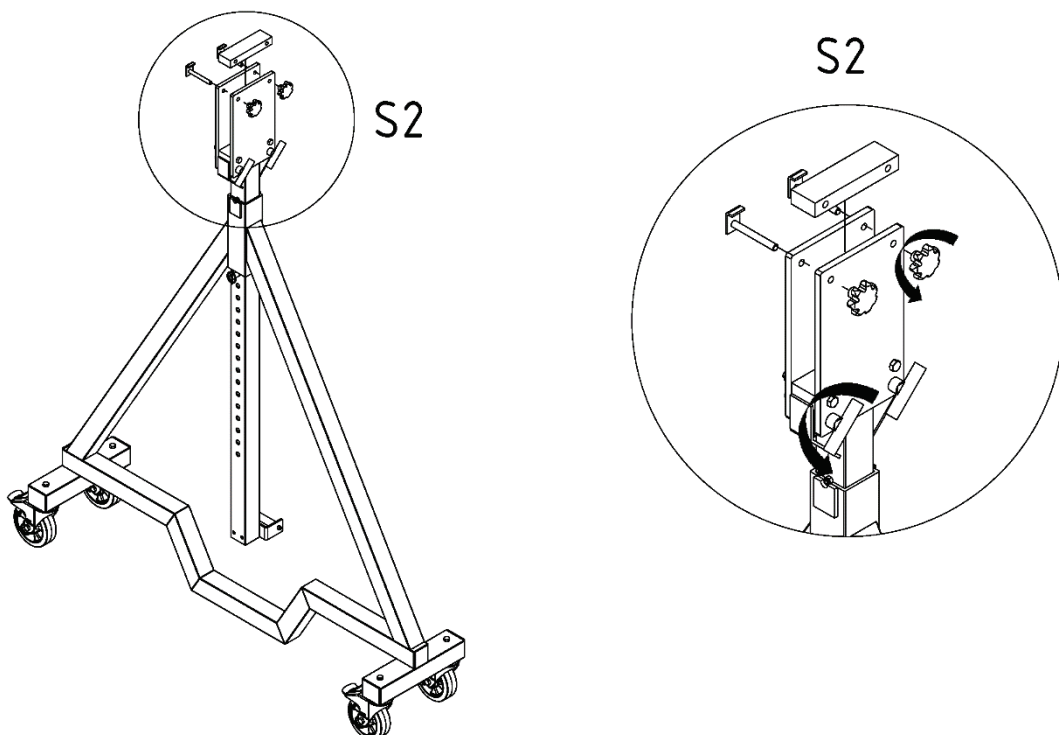

Fig. 2
- 7.2 Loosen clamping screw 2 as shown in fig. 2.